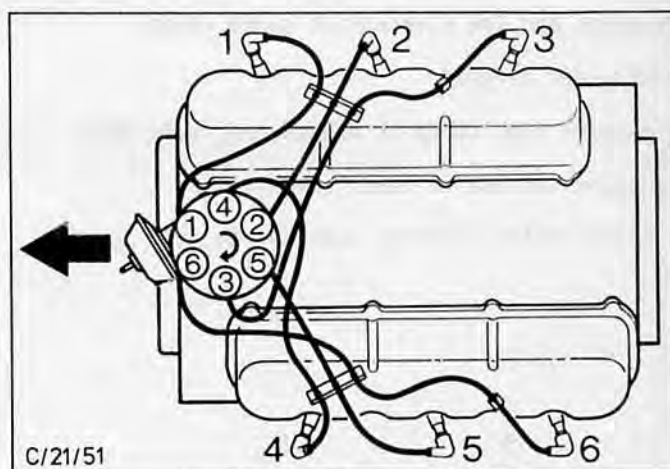

Fig.8. Arrangement of HT leads.
5. Refit spark plugs and tighten to specified torque. Reconnect the HT leads in the correct order, Fig.8.